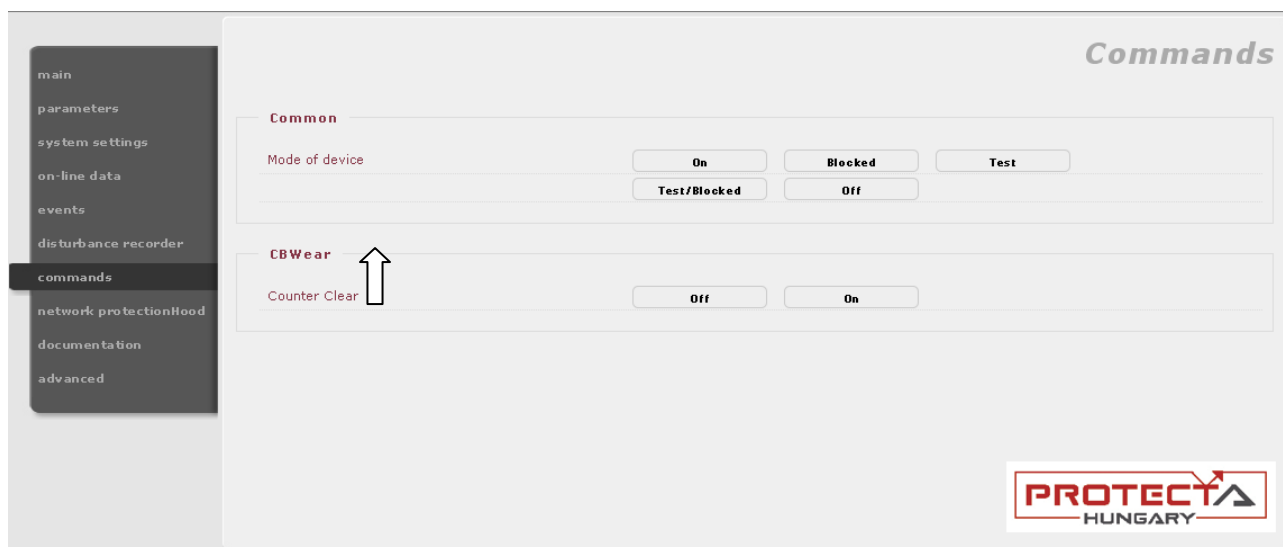

Figure 1-2 The command window to reset the CB wear counter
- Performing a direct command via the Commands menu of the supervising WEB browser (for details, see the “Europrot+ manual”, “Remote user interface description” document). The Command window looks like Figure 1-2.